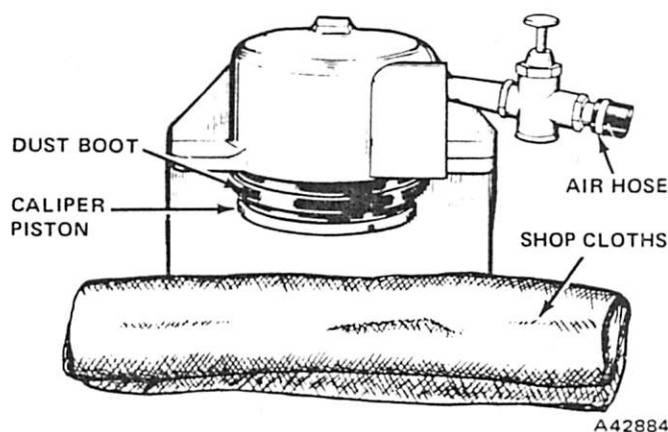

Fig. 2G-51 Caliper Piston Removal
(1) Clean caliper exterior with brake cleaning solvent.
(2) Drain remaining fluid from caliper and place caliper on clean work surface.
(3) Pad caliper interior with clean shop cloths (fig. 2G-51).
(4) Insert air nozzle into caliper fluid inlet hole and slowly apply just enough air pressure to ease piston out of bore (fig. 2G-51).